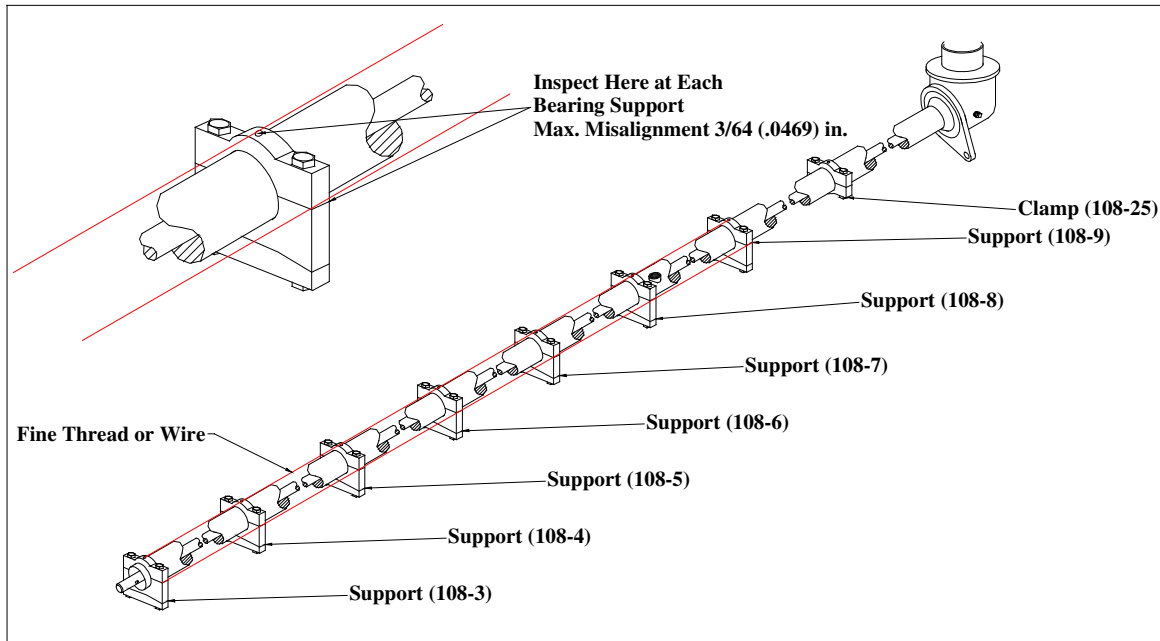

Fig SB-106-3 Bearing Support Alignment
- 2.1 Extend a fine thread or wire from the top center hole of the forward bearing support (108-3) to the top center hole of the aft bearing support (108-9). Pull the thread or wire taut. See fig. SB-106-3.
- 2.3 Extend a fine thread or wire from the split line (contact point between upper and lower support halves) on the side of the forward bearing support (108-3) to the split line on the side of the aft bearing support (108-9). Pull the thread or wire taut. See fig. SB-106-3.
NOTE	Use calipers with a .001" inch accuracy for these measurements. These dimensions should be 3/64 (.0469) inch or less. See fig. SB-106-3.